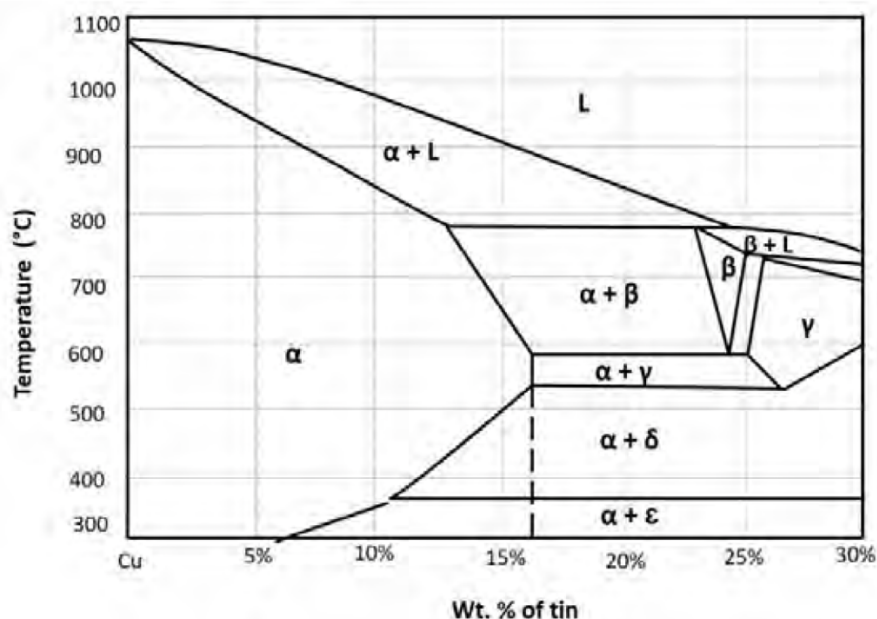

Fig. 3.4: Phase diagram of copper–tin system.
- **DIAGRAM REFERENCE:** FIG. 3.4 - CU-SN PHASE DIAGRAM. COMPLEX WITH MULTIPLE EUTECTOID REACTIONS.